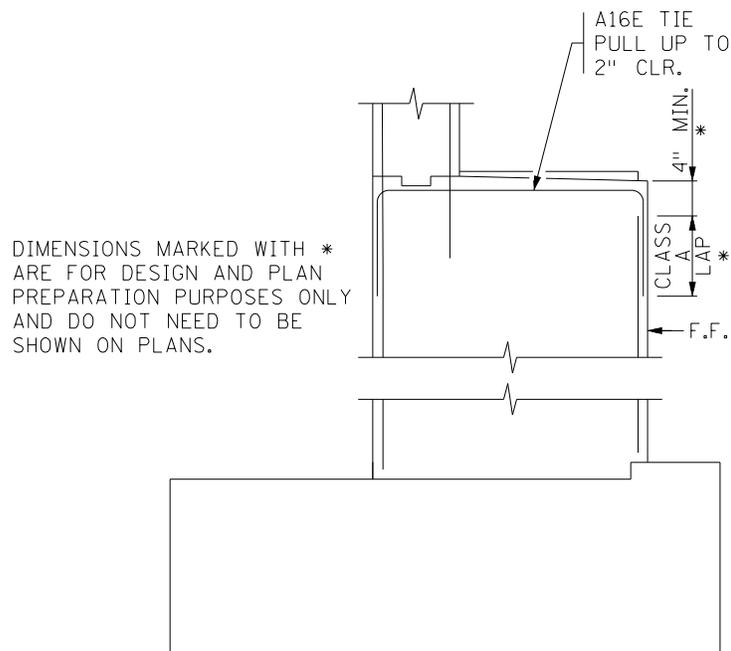

Figure 4
6. Leave vertical bar 4" short of top of wall (or seat) or more as required to account for a sloped top surface. Extend length of A16E abutment seat tie to ensure proper lap length. These tie bars must be spaced with the verticals. A series may be used if the slope is extreme. Otherwise, keep verticals to a single length. Some laps will exceed the minimum. (See Figure 4.)